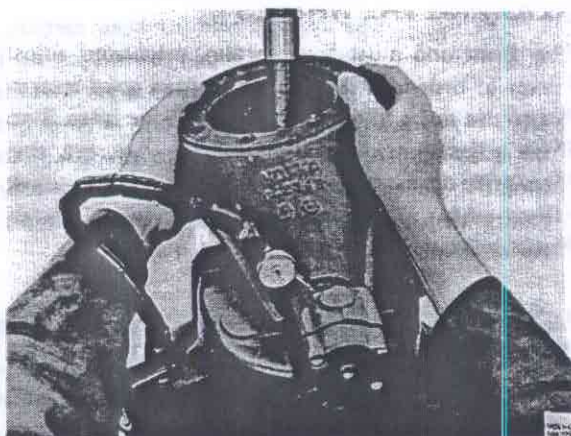

Fig. 63-13. Measuring the axial clearance
6. Slacken the clamp and press the steering knuckle support in the other direction while turning it at the same time, see Fig. 63-13. Read-off the indicator and note the clearance.